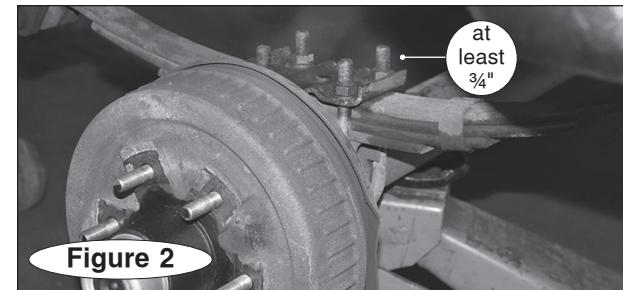

Figure 2
- Ensure that the U-bolts attaching the trailer's leaf springs to the axles have at least $\frac{3}{4}$ " of thread showing beyond the nut (Figure 2). **Note:** If you need longer U-bolts, order part 2630 for the 3" axles or part 2635 for $3\frac{1}{2}$ " axles. You will need one pair per axle.